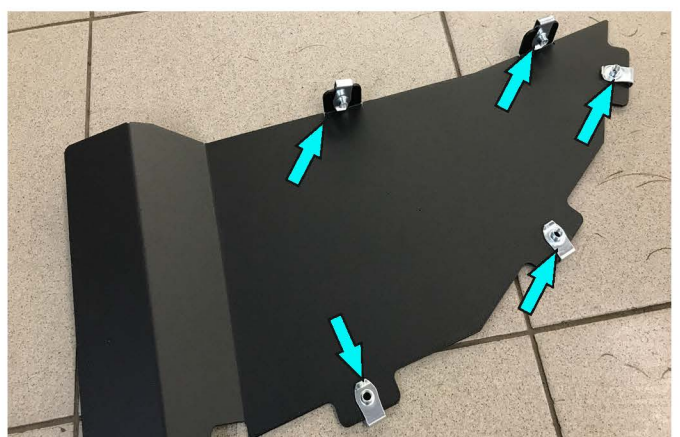

Fig.48
48. Fit U-nut M6 (item K) on flaps (item 4, 6) (fig.48).